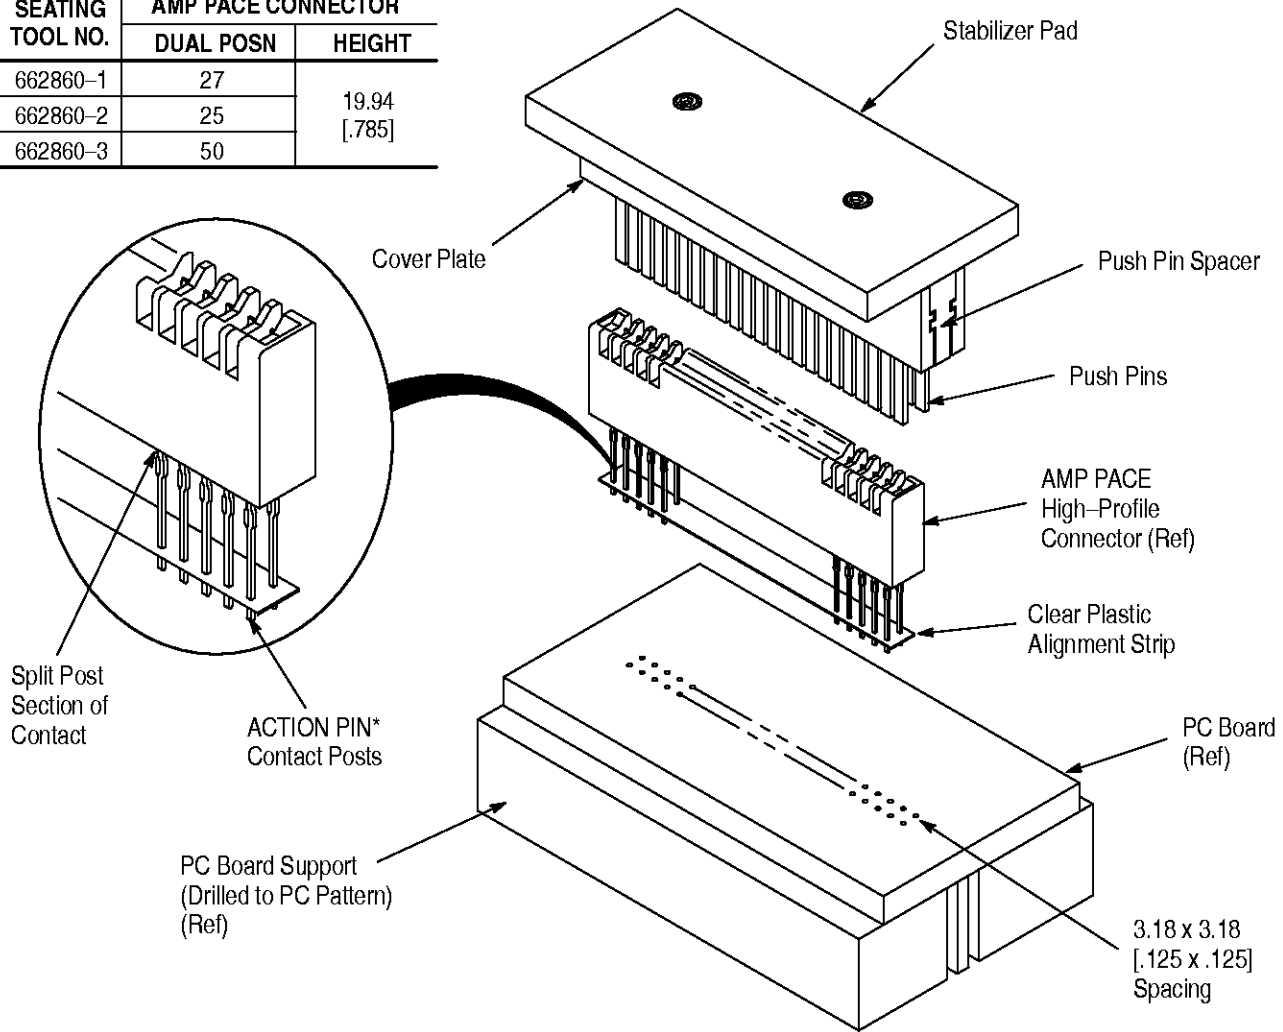

Figure 1
**2. DESCRIPTION** (Figure 1)
4. Place an appropriate board support (Figure 1) under the pc board to provide support for the board and to protect the contact posts during insertion.